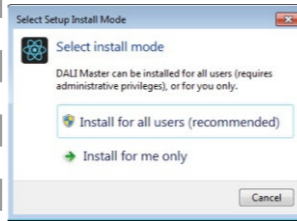

Figure 1 Select Installation Mode
**Step 1:** Run the installation file and select installation mode as shown in **Figure 1**.